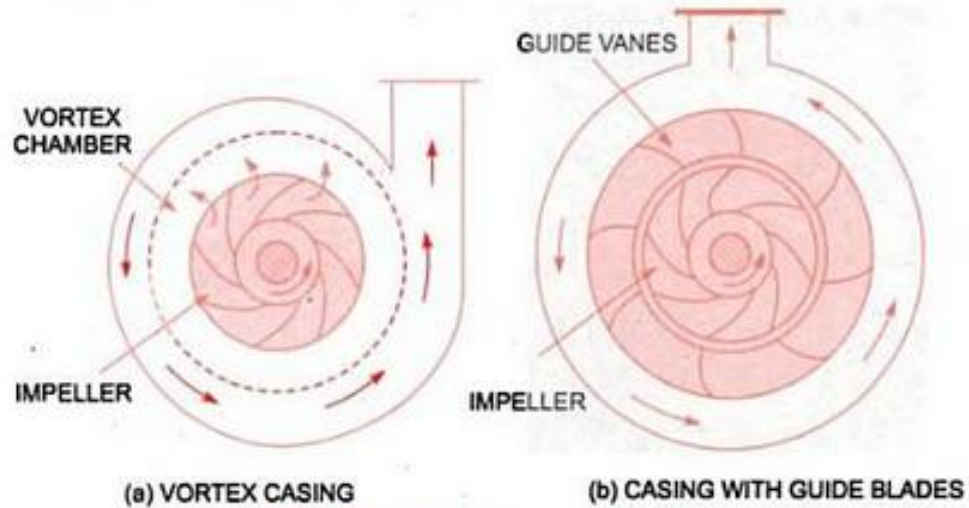

Fig. 19.2 Different types of casing.
- (b) Vortex casing as shown in Fig. 19.2 (a).
- (c) Casing with guide blades as shown in Fig. 19.2.(b).
(b) **Vortex Casing.** If a circular chamber is introduced between the casing and the impeller as shown in Fig. 19.2 (a), the casing is known as Vortex Casing. By introducing the circular chamber, the loss of energy due to the formation of eddies is reduced to a considerable extent. Thus the efficiency of the pump is more than the efficiency when only volute casing is provided.
(c) **Casing with Guide Blades.** This casing is shown in Fig. 19.2 (b) in which the impeller is surrounded by a series of guide blades mounted on a ring which is known as diffuser. The guide vanes are designed in which a way that the water from the impeller enters the guide vanes without stock. Also
the area of the guide vanes increases, thus reducing the velocity of flow through guide vanes and consequently increasing the pressure of water. The water from the guide vanes then passes through the surrounding casing which is in most of the cases concentric with the impeller as shown in Fig. 19.2 (b).